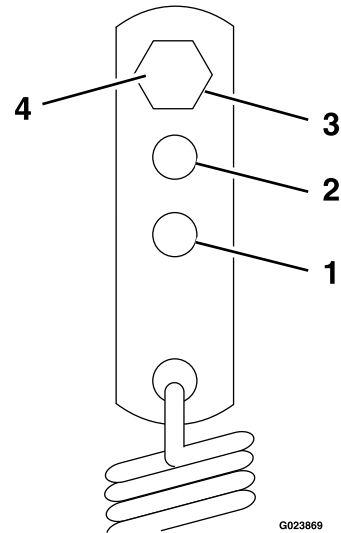

Figure 20
2. For a heavier drive setting, relocate the spring anchor link as shown in Figure 20. The spring anchor links are located under the engine deck on the left and right hand sides.